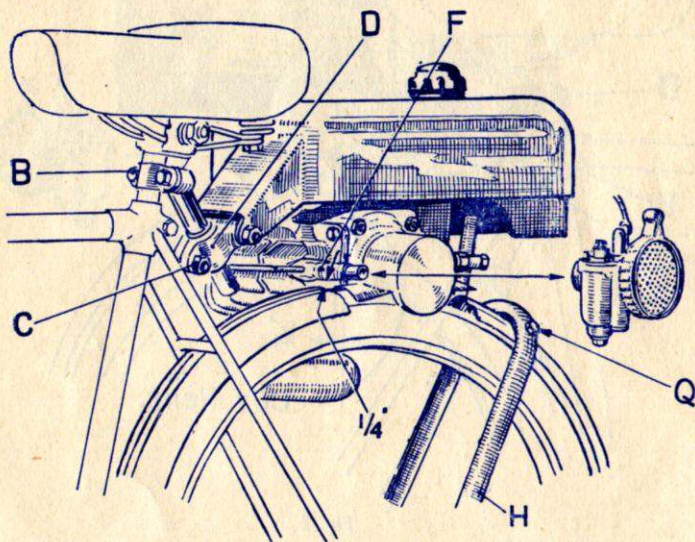

Fig. 3
- (4) Now replace the unit as before and the roller will rest on the tyre. Move again the sliding hinge "D" to bring the tank afresh into a horizontal position. Make sure now that the cylinder fins and the inlet tube are at least $\frac{1}{4}$ in. clear of the mudguard. If the clearance is less, it is necessary to cut away the sections of the mudguard which may endanger the free movement of the engine. (Fig. 3.)
- (5) Now look at the bicycle from the rear. Make sure that the tank top is parallel to the spindle of the rear wheel of the bicycle and that the roller rests well on the middle of the tyre.
- (6) Now tighten the clamp bolts "B" and sliding hinge bolts "C" (Fig. 3).
- (8) Two holes "Q" must now be drilled through the rearward portion of the mudguard at about $\frac{1}{4}$ in. from the edge where the cut (see paragraph 3) was made. The U shaped stay should then be bolted to the mudguard. (Fig. 3).